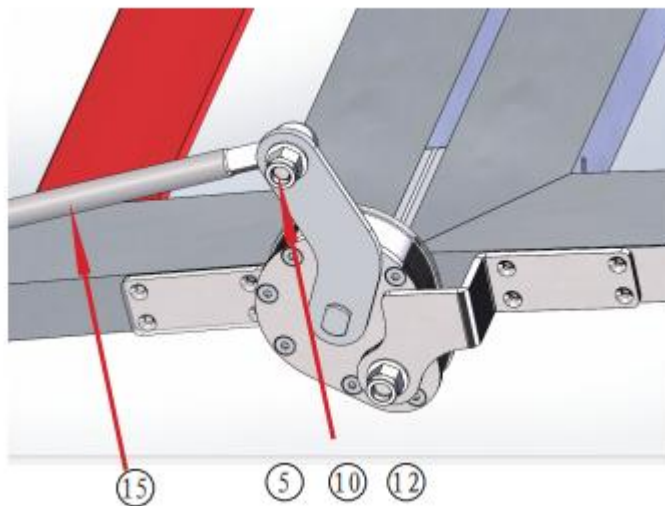

Fig 6
3. Adjust the length of the connection rod and install it on the rotating mechanism. See Fig 6